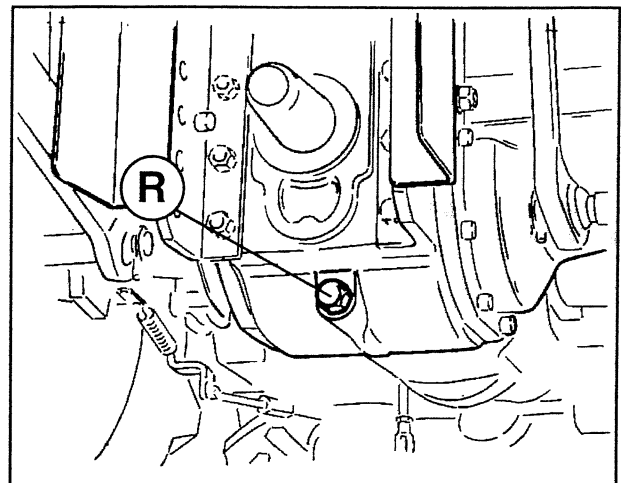
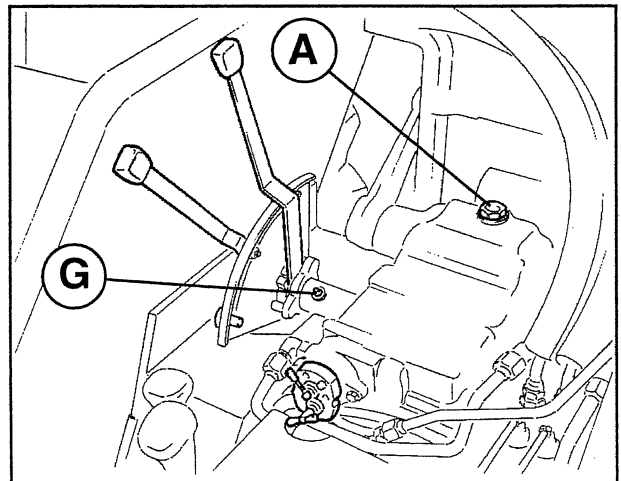

Fig. 37 Changing the gearbox oil.
Fig. 38 Gearbox oil filler cap and lift control lever greaser.
- Hydraulic lift lever control pin G (Fig. 38).
With the tractor hot and on flat ground, drain the oil from the union R (Fig. 37) with the hydraulic lift links completely lowered. Add the quantity and type of new oil indicated in the lubricants table on page 41 from the cap A (Fig. 38) behind the driving seat on the gearbox.